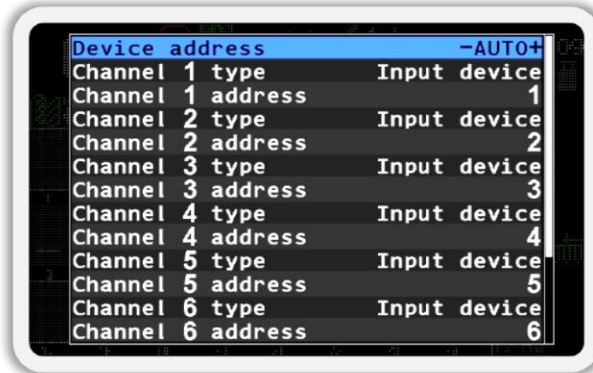

Figure 114
1. In the “Sensor Configuration” menu (see Figure 108 p.4), by using the  “Up” or  “Down” buttons, select the  “Concentrator-8” item and press the  “Menu” button. As a result, a menu with device settings will open (see Figure 114).
2. Select the  “Device address” item and make sure the “AUTO” value is selected (see Figure 114). Use the  “Plus” or  “Minus” buttons to change the parameters.